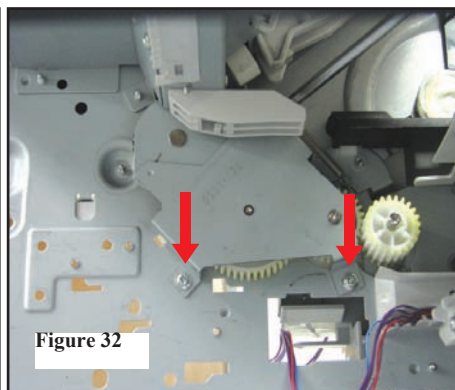

Figure 32
31. Remove swing plate by removing 3 screws, and slide down and out. (Figure 32)